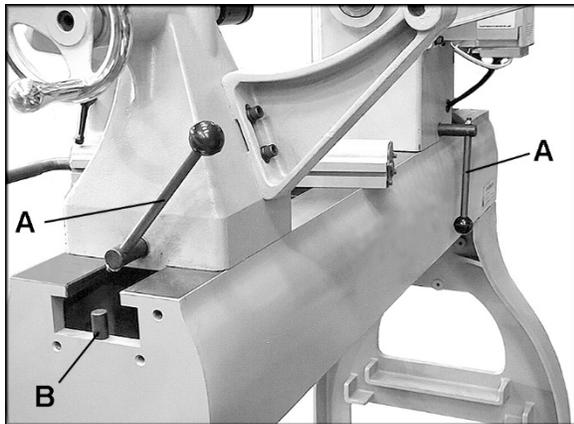

Figure 13
To slide the headstock or tailstock, swing the locking handle (A, Figure 13) backward or forward until the headstock/tailstock can slide freely.
To remove headstock, tailstock or toolrest base from the bed, unscrew and remove either of the stop bolts (B, Figure 13). After re-mounting these items on the lathe, re-insert the stop bolt.
1. Unscrew and remove the stop bolt on the end of the lathe bed (B, Figure 13) and slide the tailstock off the end of the bed.